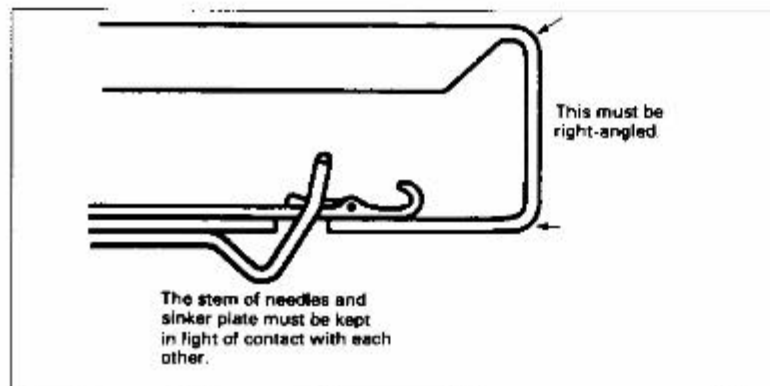

Fig. 5-10
4. When L carriage sinker plate is crooked. (Fig. 5-10).